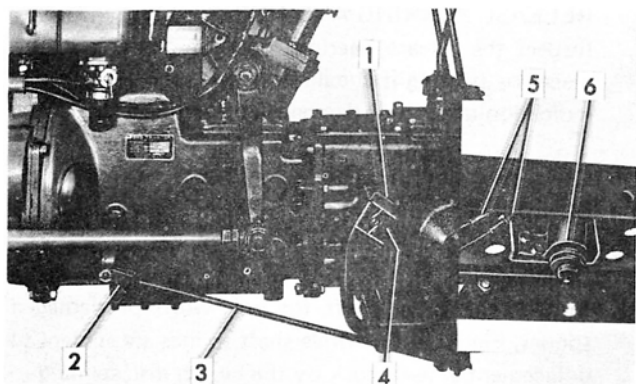

Figure 1
To obtain maximum clutch life, it is essential that the clutch pedal free travel be checked every 50 hours to maintain a free travel of 19.0-30.1 mm (.75-1.20 in.) as measured along the path of travel of the pedal. Free travel is the distance the pedal can be moved before resistance is met, see Figure 1.
1. Remove the clutch rod cotter pin and clevis pin, and rotate the clevis as necessary, see Figure 1. Increasing